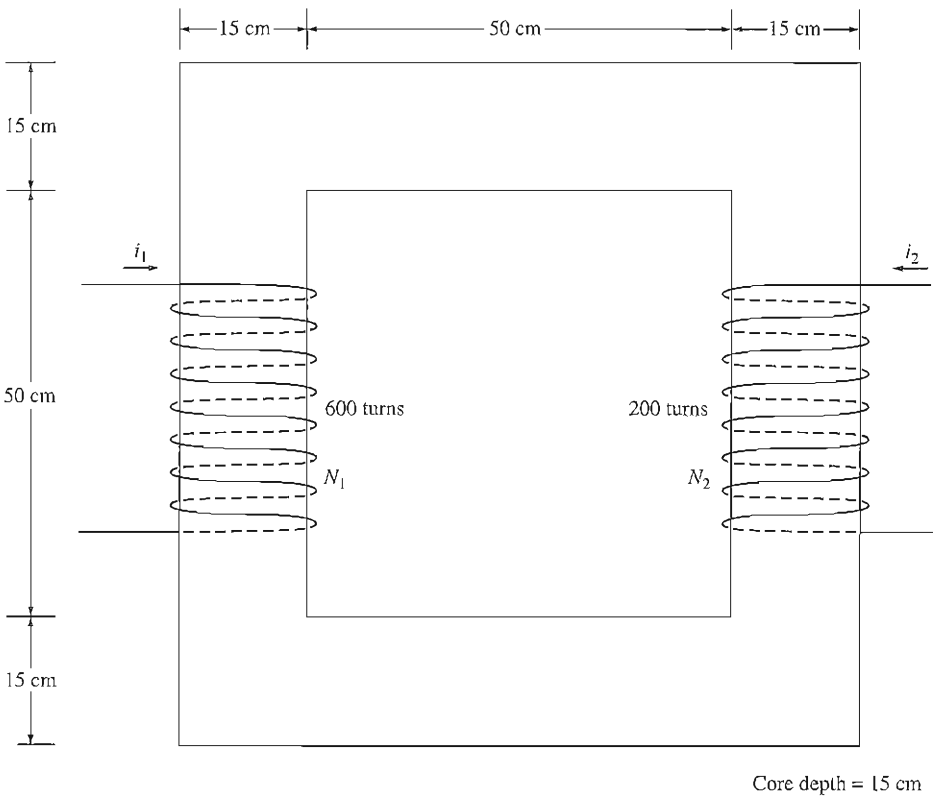
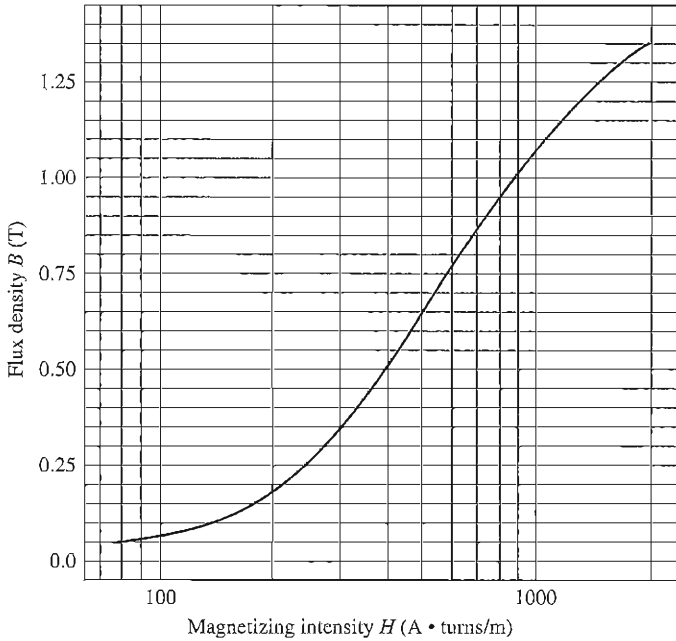

FIGURE P1-4
FIGURE P1-9
- 1-7. A two-legged core is shown in Figure P1-4. The winding on the left leg of the core (N_1) has 600 turns, and the winding on the right (N_2) has 200 turns. The coils are wound in the directions shown in the figure. If the dimensions are as shown, then what flux would be produced by currents $i_1 = 0.5 \text{ A}$ and $i_2 = 1.00 \text{ A}$? Assume $\mu_r = 1200$ and constant.
- 1-12. The core shown in Figure P1-4 is made of a steel whose magnetization curve is shown in Figure P1-9. Repeat Problem 1-7, but this time do *not* assume a constant value of μ_r . How much flux is produced in the core by the currents specified? What is the relative permeability of this core under these conditions? Was the assumption
Figure P1-9. Assume a 5 percent increase in effective air-gap area to account for fringing. How much current is required to produce an air-gap flux density of 0.5 T? What are the flux densities of the four sides of the core at that current? What is the total flux present in the air gap?